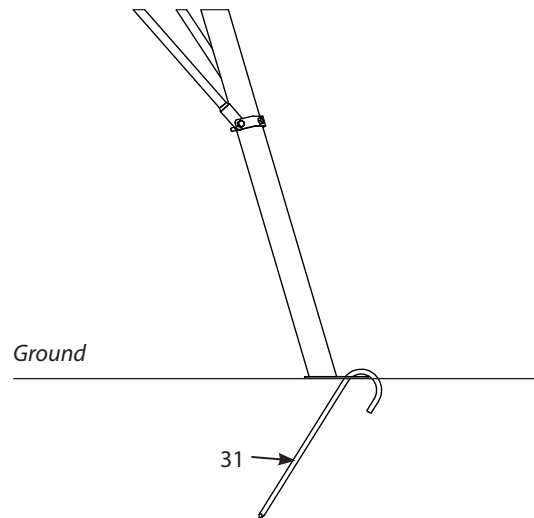

FIGURE 22
22. Using a hammer, drive the five provided ground stakes (31) into the ground at an angle towards the center of the quad pod. Driving them in at a similar angle as shown in Figure 22 will greatly increase how well the quad pod is secured to the ground. **SEE FIGURE 22.**